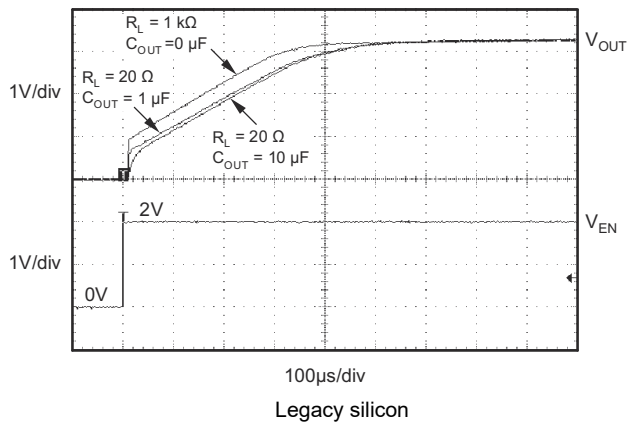

Figure 5-39. TPS73633 Turn-On Response
The enable pin (EN) is active high and is compatible with standard TTL-CMOS levels. A V_{EN} below 0.5V (maximum) turns the regulator off and drops the GND pin current to approximately 10nA. When EN is used to shutdown the regulator, all charge is removed from the pass transistor gate. A V_{EN} above 1.7V (minimum) turns the regulator on and the output ramps back up to a regulated V_{OUT} (see Figure 5-39).